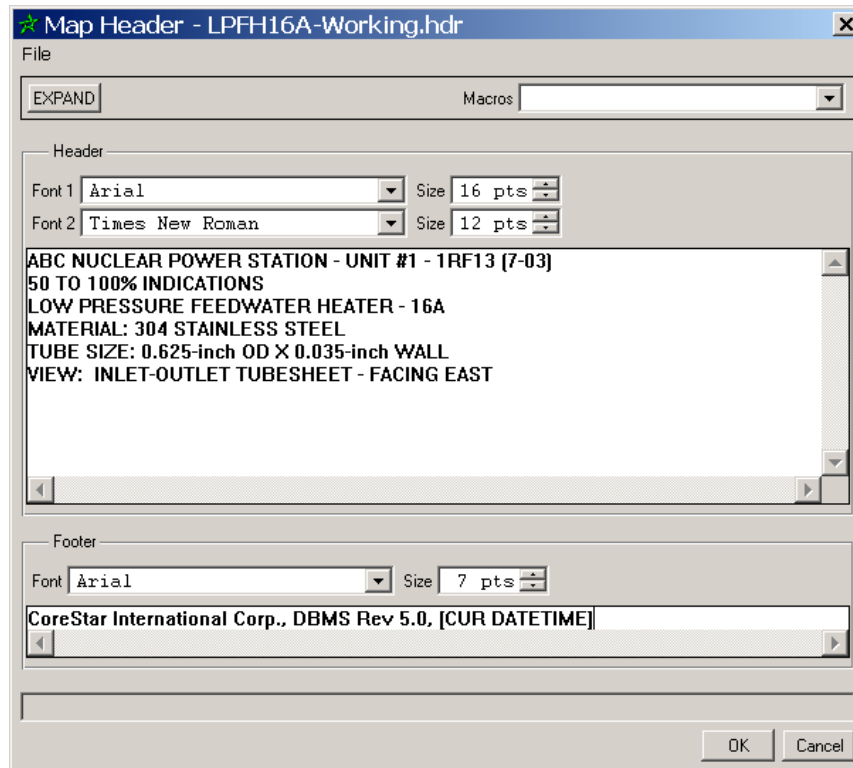

Figure 16-8. Map Header Dialog
STEP 7: The *Map Header* dialog should look like Figure 16-8. Click **OK**.